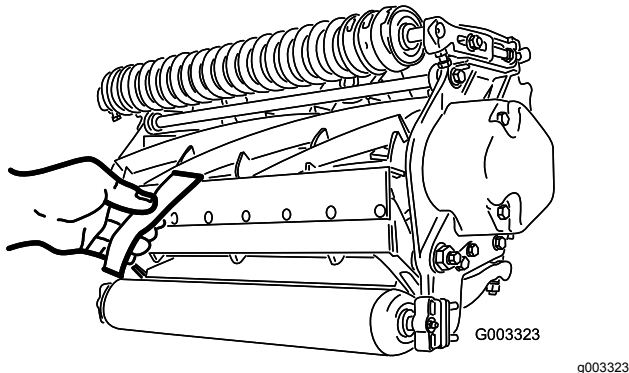

Figure 10
2. Test the cutting performance by inserting a long strip of cutting performance paper (Toro Part No. 125-5610) between the reel and the bedknife, perpendicular to the bedknife (Figure 10). Slowly rotate the reel forward; it should cut the paper.